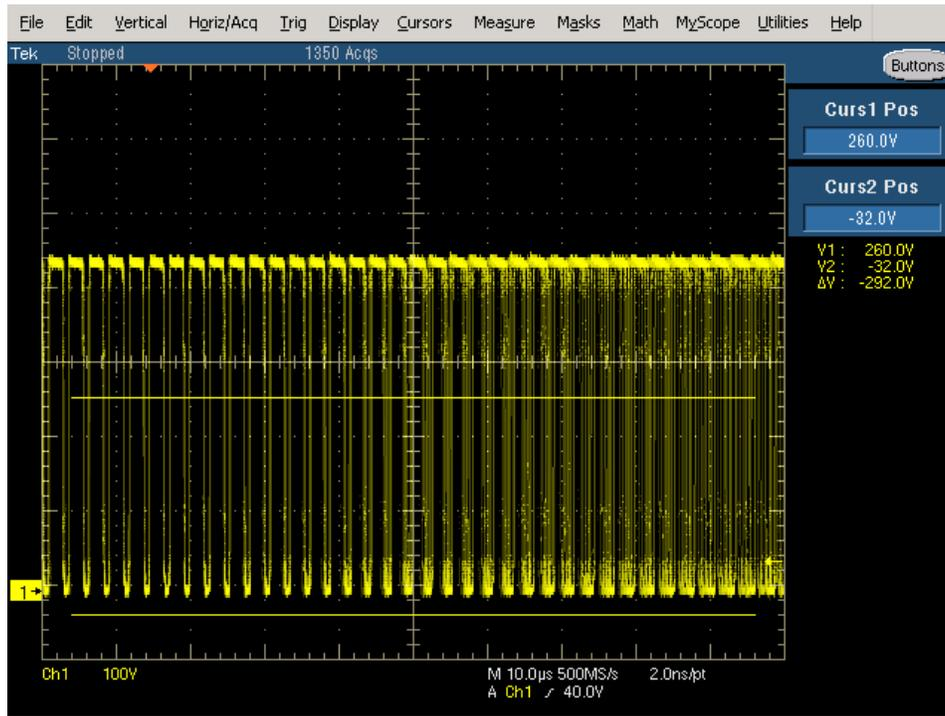

Figure 3 - Clean CCM Operation
25. Turn DC load to 2.25 A, and check to see that the board is operating in CCM (see Figure 3)